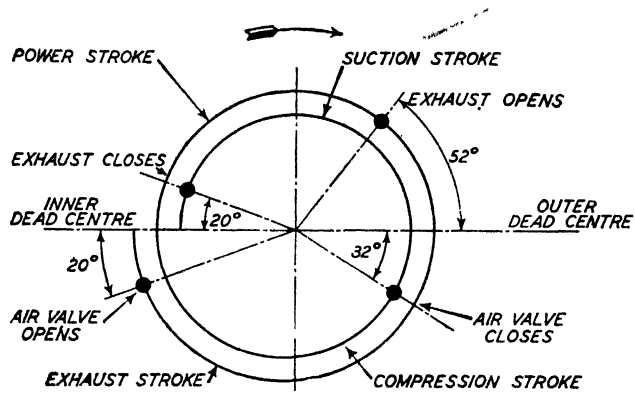

Fig. 23.—IGNITION TIMING DIAGRAM
The wheels are generally marked by the makers, so that one mark on the one gear falls into position between two marks on the other ; or, if a chain drive, the wheels are marked and a pointer fitted inside the chain case. Should this not be the case the timing is set as indicated in Fig. 23.
(1) The fuel system may have air locks. This can be remedied by taking off the fuel pipe to the sprayer, removing the sprayer from the cylinder-head, and coupling it on to the pipe so that it will spray outwards instead of into the cylinder. Work the pump again by hand, and it can be seen at once if the sprayer is functioning. Should the sprayer not be working the cause of the trouble must be further traced, as follows ;
(2) Fuel-pump plunger sticking. Dismantle, examine, and clean the plunger. Never use emery cloth.
(3) Fuel-pump suction or delivery valve leaking, due to particles of foreign matter between the valve and its seat. In handling fuel-pump parts, do not use any cloth other than clean linen wipers, as the use of dirty cleaning material invariably causes trouble owing to lint, grit, etc., getting into the oilways.
- (4) Exhaust valve sticking. In a new engine a few drops of paraffin injected into the guide will usually remedy.
- (5) Valve timing incorrect. Check up from Fig. 23.